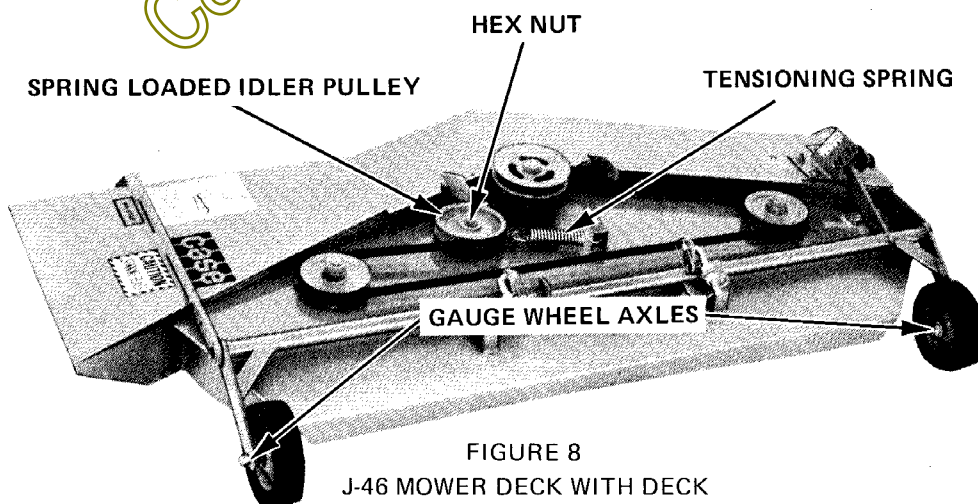

FIGURE 8
3. Mower Gauge Wheels. See Figure 8.
4. Mower deck belt replacement. See Figure 8.